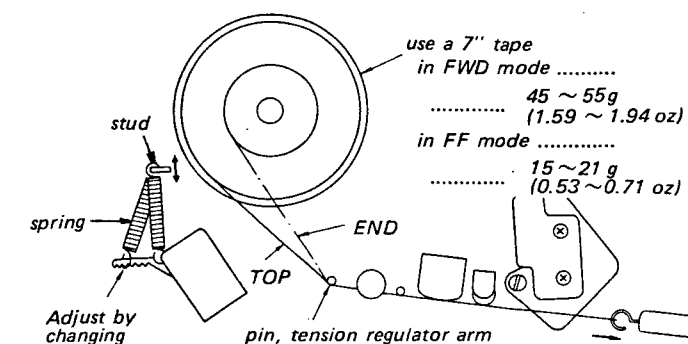

Fig. 8-5 Tension regulator back-tension adjustment
- (1) Make the tension regulator adjustment.
- (2) Adjust by changing the hooking position of the spring to obtain the specified values on the tension gauge at the beginning and the end of the tape as shown in Fig. 8-5.